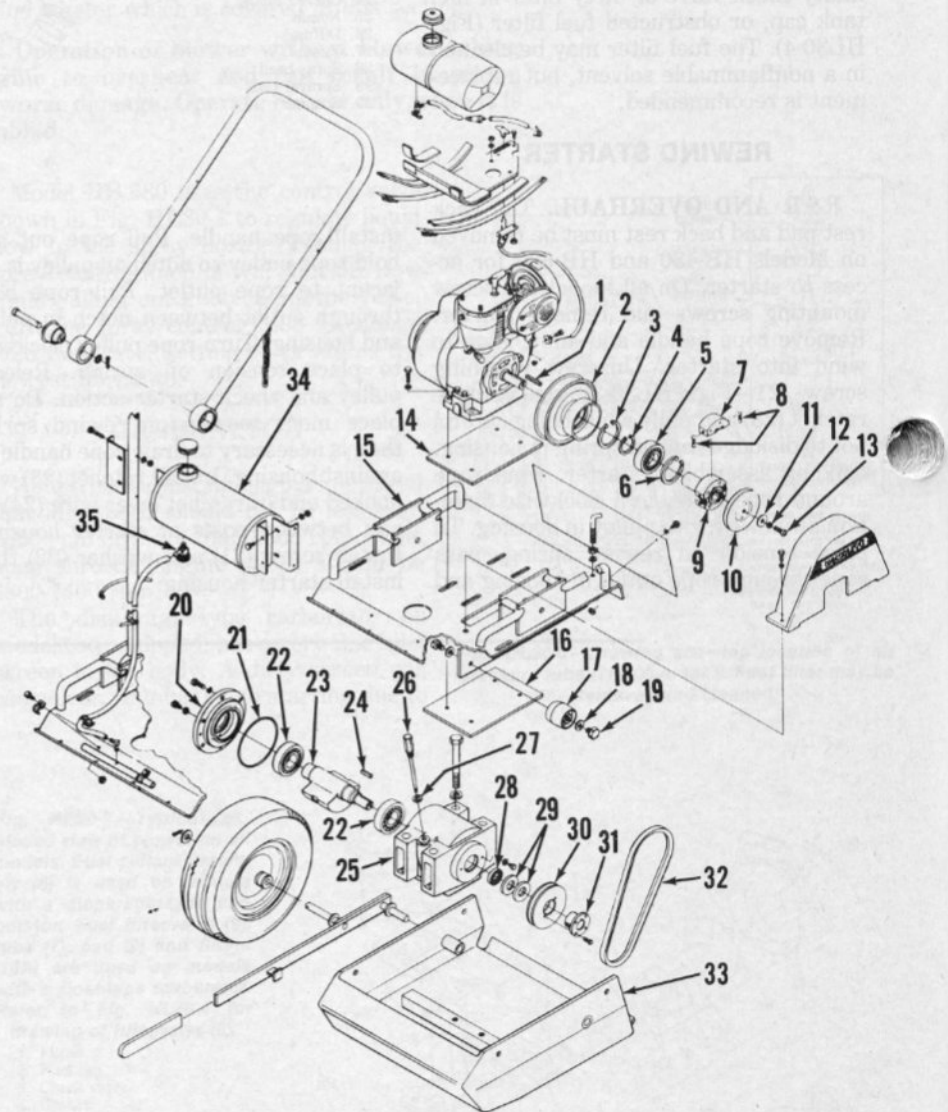

Fig. HL33-1 - Exploded view of Model PCS-30 soil compactor. Model PCA-20 asphalt compactor is similar.
LUBRICATION. The exciter is lubricated by oil contained in the housing. Exciter oil level should be checked after every 25 hours of operation. With engine stopped unscrew dipstick (26 - Fig. HL33-1) and note oil level (dipstick must be fully screwed into housing for an accurate reading). Recommended oil is SAE 30 with API rating SE. Exciter oil should be changed after 200 hours of operation or after one year, whichever comes first. Eight ounces of oil is required to fill an empty exciter housing to desired oil level.
BELT ADJUSTMENT. Drive belt (32 - Fig. HL33-1) tension is correct if belt will deflect $\frac{3}{8}$ inch to $\frac{1}{2}$ inch when depressed at center. If upper deck (15) moves downward while depressing belt, then belt is too tight. If upper deck doesn't move and belt is depressed more than $\frac{1}{2}$ inch, then belt is too loose. If belt adjustment is required, loosen engine mounting bolts and reposition engine. Retighten engine mounting bolts to 12-14 ft.-lbs. after adjustment.